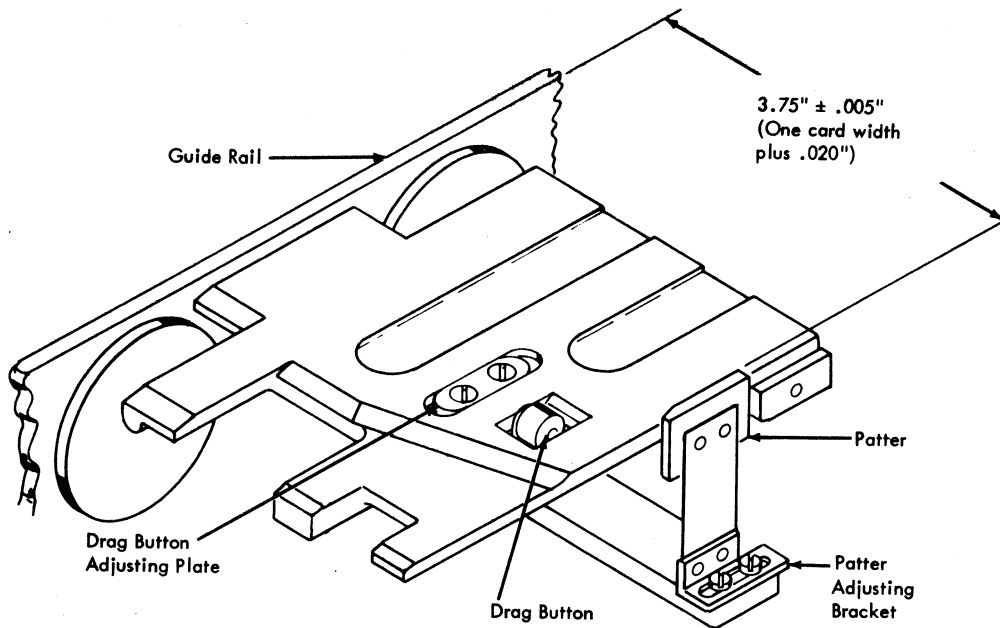

Figure 4-22. Punch Drag Button and Card Patter Adjustment
3. Position drag button adjusting plate until step 2 provides a slight but perceptible drag on the card strip. Drag button must not contact sides of clearance hole (Figure 4-22).